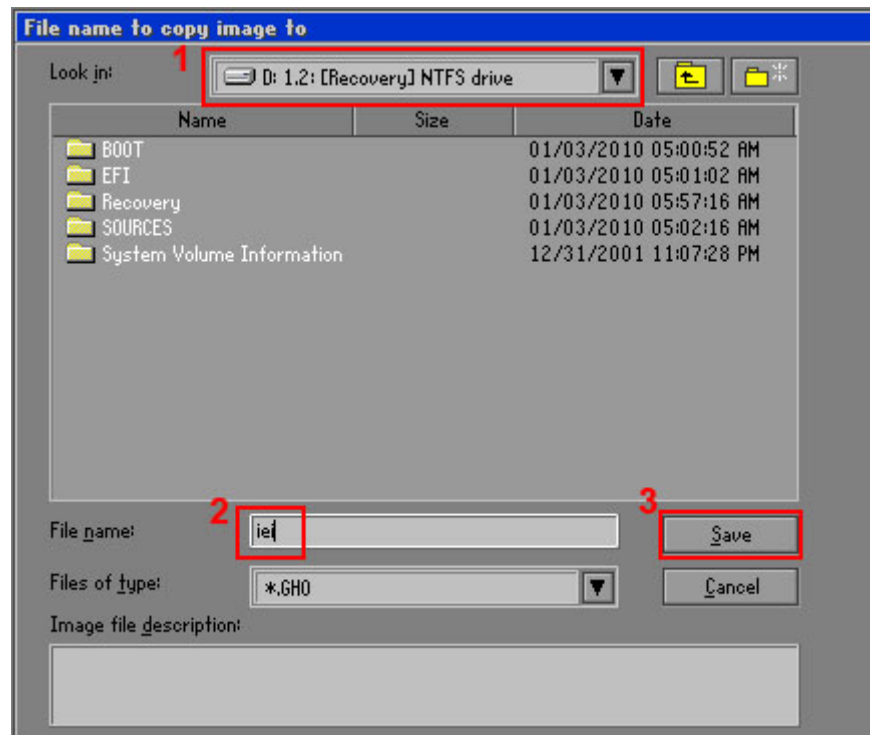

Figure A-16: File Name to Copy Image to
Step 7: Select **1.2: [Recovery] NTFS drive** and enter a file name called **iei** (Figure A-16). Click **Save**. The factory default image will then be saved in the selected recovery drive and named IEI.GHO.